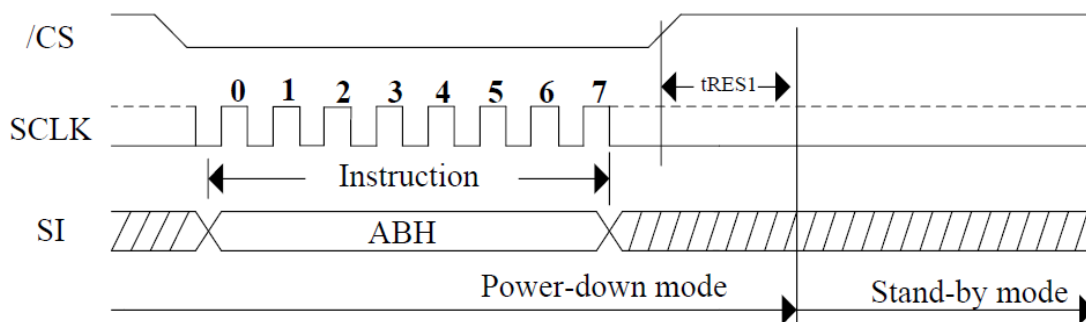

Figure 11. Release Power-Down Sequence Diagram
The Release from Power-Down or Device ID instruction is a multi-purpose instruction. It can be used to release the device from the Power-Down state or obtain the devices electronic identification (ID) number. See Figure 11, to release the device from the Power-Down state, the instruction is issued by driving the /CS pin low, shifting the instruction code “ABH” and driving /CS high. Release from Power-Down will take the time duration of tRES1 (See AC Characteristics) before the device will resume normal operation and other instruction are accepted. The /CS pin must remain high during the tRES1 time duration.